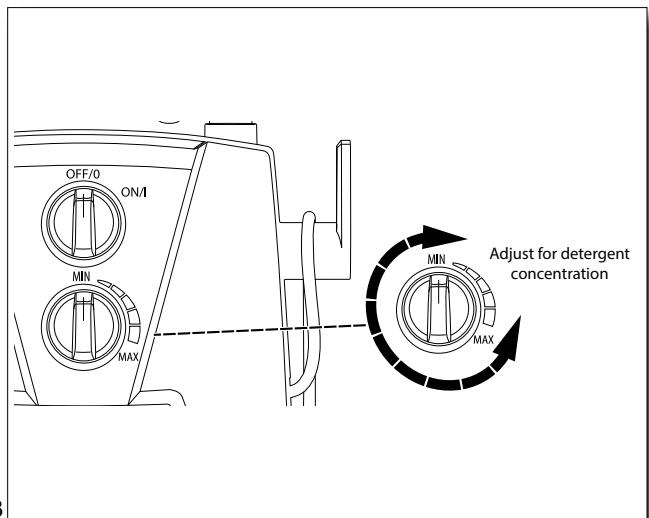

Fig. 14
- The power washer will pull a ratio of water to detergent of 10:1 or 10 parts water to 1 part detergent. The detergent concentration can be adjusted by turning the detergent knob on the front of the machine. Turn it right for more concentration or turn it left for less concentration. (Fig. 14)